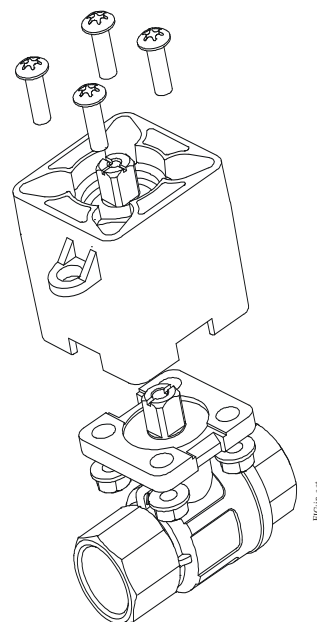

Figure 9: Installing the Barrier
3. Mount the thermal barrier onto the valve using the four included M5x16 mm machine screws and four M5 flange nuts. Tighten the screws to a recommended torque of 21 to 25 lb·in. (2.4 to 2.8 N·m) (Figure 9).